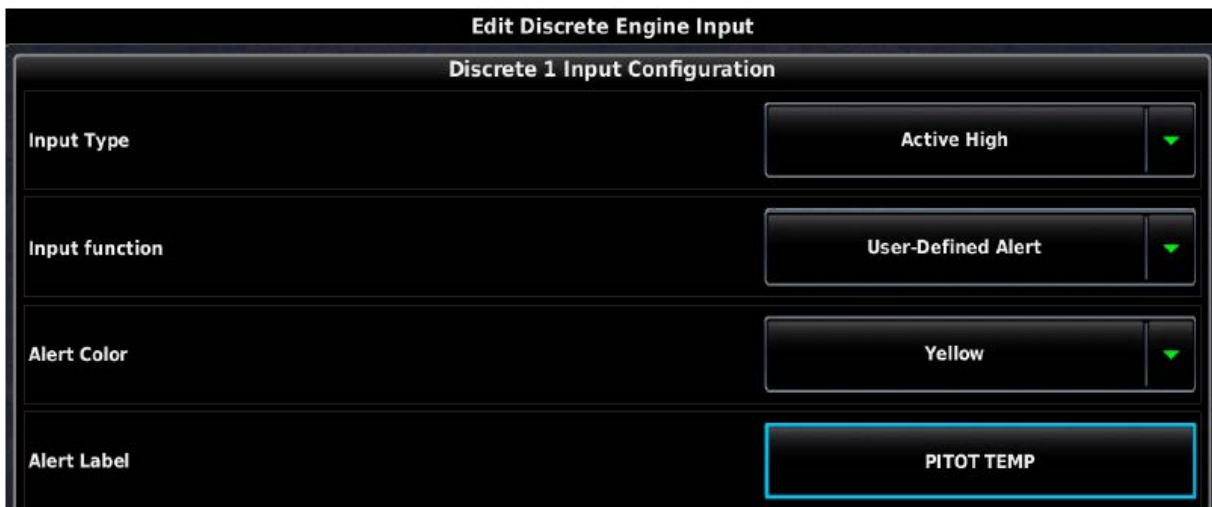

Figure 30-64 Configuration #2
2. The discrete input configuration shown in Figure 30-64 will result in a yellow "PITOT TEMP" alert that will appear on the PFD any time the GAP 26 heater is powered off, or if it is powered on but the probe temperature is below approximately 25° C (77° F). If pitot heat is powered and the probe temperature is sufficiently high, the yellow "PITOT TEMP" alert will not appear.